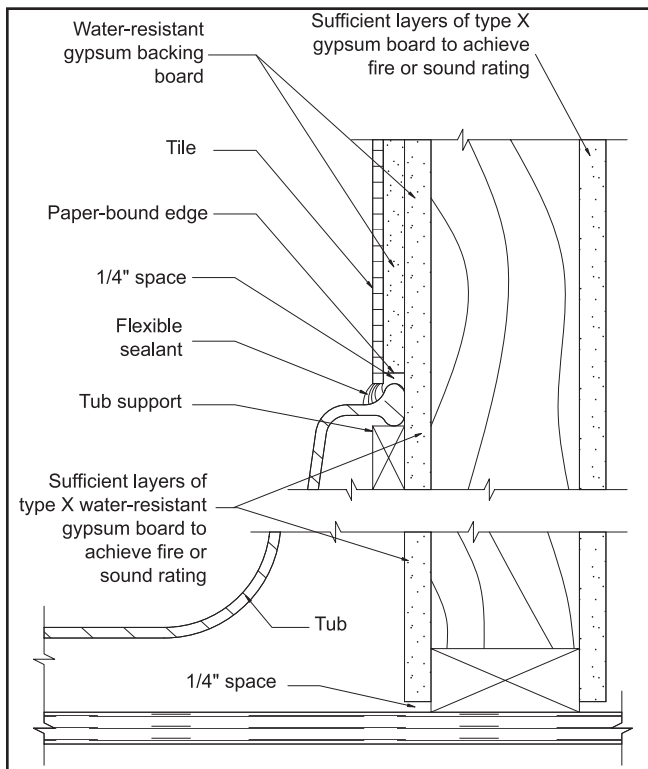

Figure 1
9. Water-resistant gypsum backing board shall be installed over or as part of the fire-resistance rated system in shower and tub areas to receive ceramic or plastic wall tile or plastic finished wall panels. When fire or sound ratings are necessary, the gypsum board required for the rating shall extend down to the floor behind fixtures so that the construction will equal that of the tested system. (See Figure 1 on page 9.)